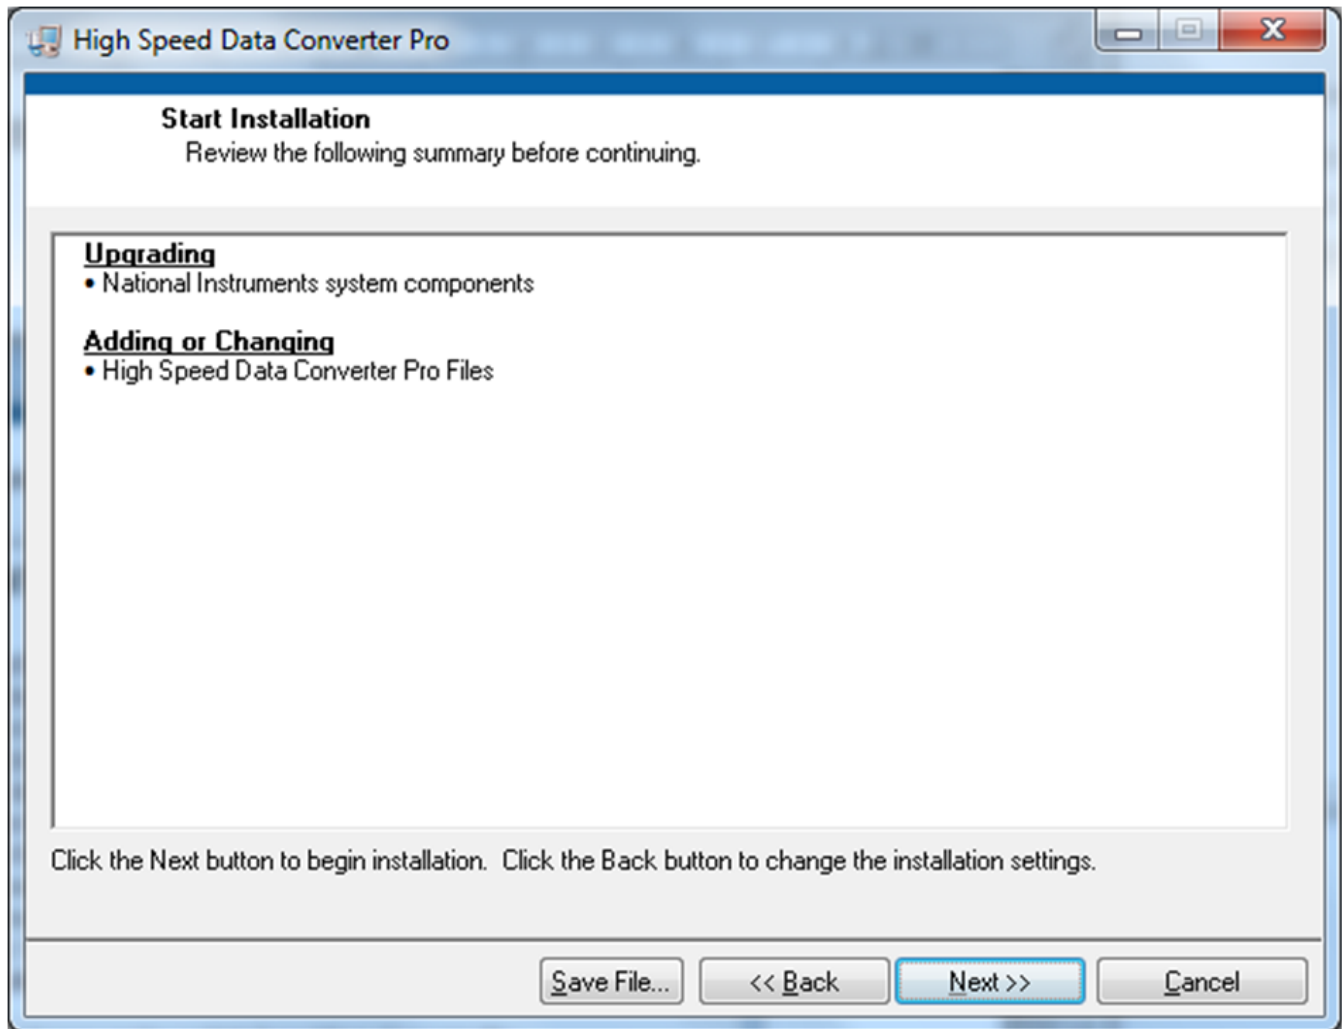

Figure 36. HSDCPro Install (Start Installation)
- Press the *Next* button as shown in Figure 36.